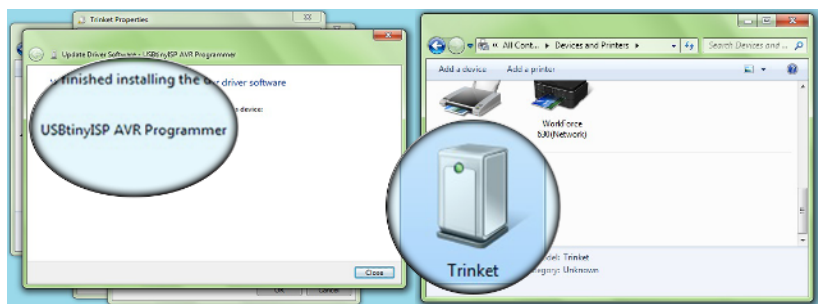

Figure 2-4. USBtinyISP driver installed correctly in Devices and Printers
4. Right-click and select Install Driver. Click the Browse button to select the directory with the unzipped USBtinyISP driver. Click Install. The driver should install, displaying the successfully installed dialog box (Figure 2-4).